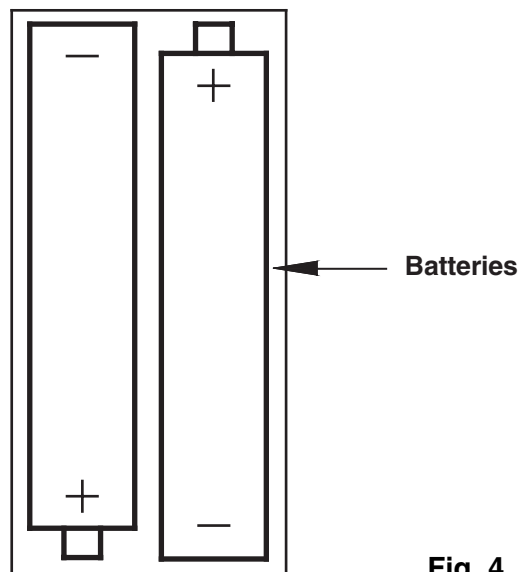

**Fig. 3**
**Note:** When either the remote control or the manual controls are used the neon's will come on for 3 seconds indicating the appropriate setting - see **Fig. 3**.